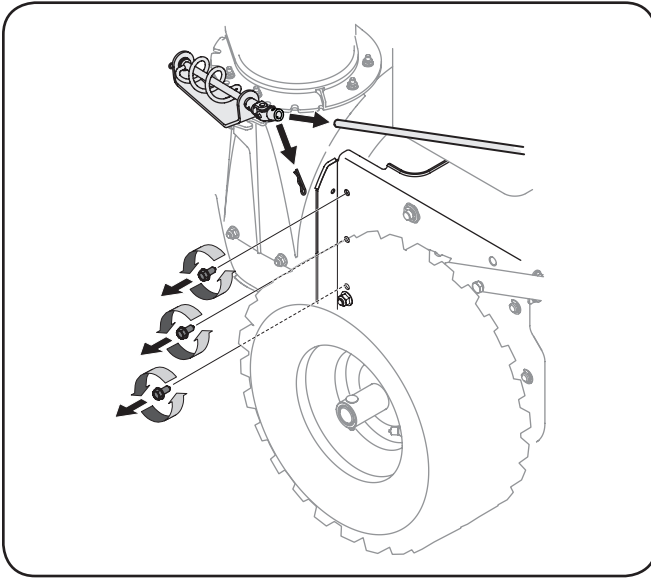

Figure 7-1
1. Remove the chute crank rod from the chute crank assembly by removing the hair pin clip shown in Fig. 7-1. Move the chute crank rod away from the assembly as shown.
4. From both sides of the frame assembly, use a 1/2" wrench to remove the three hex tap screws securing the transmission frame to the auger housing assembly. Refer to Fig. 7-1. Do not remove the lower hex flange lock nut on each side.